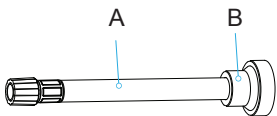

Fig.4
- Connect the air hose to the air pump by screwing the hose into the end of the Air Pump. When screwing, use main body of the hose (part A in figure 4), do not use protective cap (part B in figure 4) for screwing as it is only for the protection of overheat.